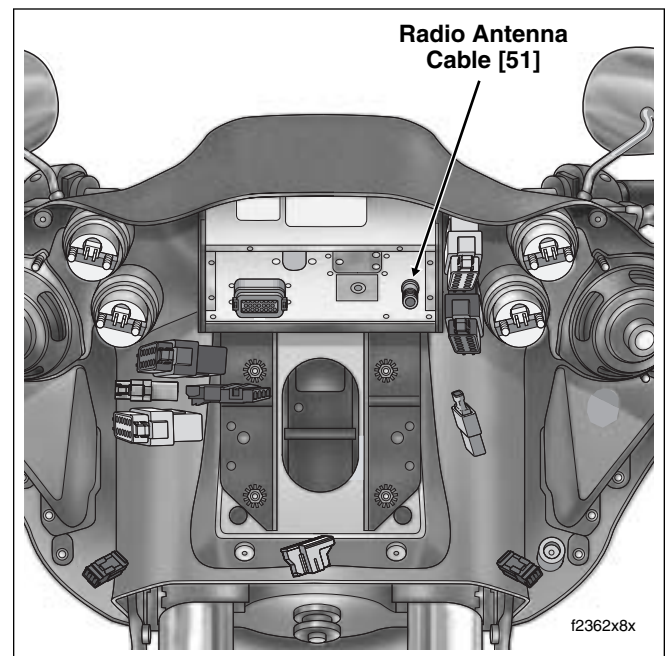

Figure 8-184. Remove Outer Fairing (FLTR)
5. Remove radio antenna cable connector [51] at back of radio (left side). See Figure 8-184. Carefully cut cable where it exits main harness conduit.
1. At front of inner fairing, connect radio antenna cable connector [51] at back of radio (left side). See Figure 8-184.